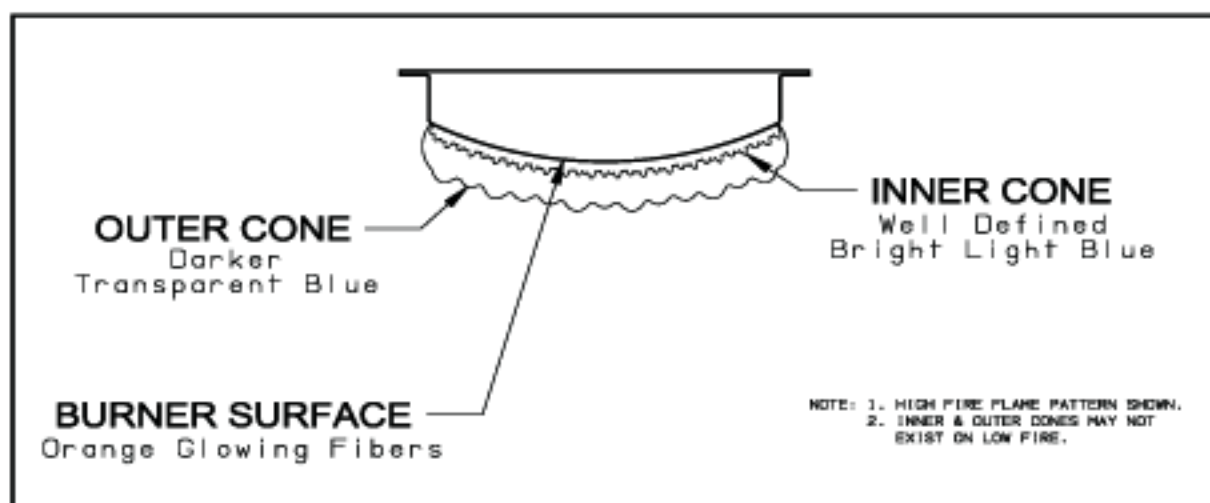

Figure 10.1: BWC Burner
- 9) Inspect the flame visible through the window. On high fire the flame should be stable and mostly blue (Fig. 10.1). No yellow tipping should be present; however, intermittent flecks of yellow and orange in the flame are normal.